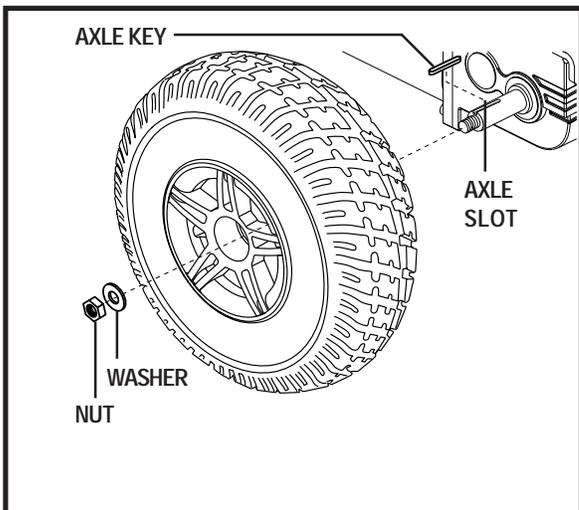

Figure 25. Jazzy 1103 Ultra Drive Wheel
4. Remove the drive wheel nut and washer from the axle. See figure 25.